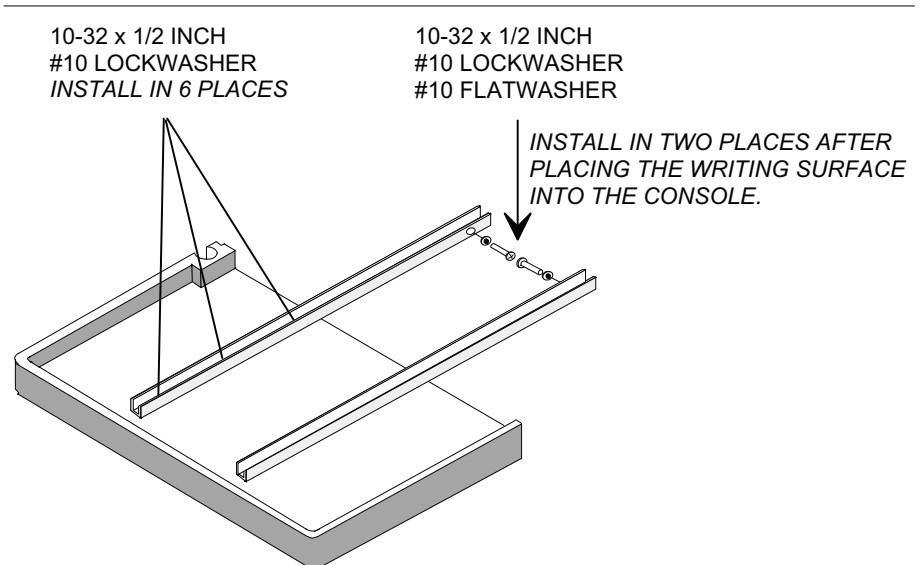

Figure 14-1. Console Table
- Step 4.* Attach the mounting rails to the table as shown in Figure 14-1.